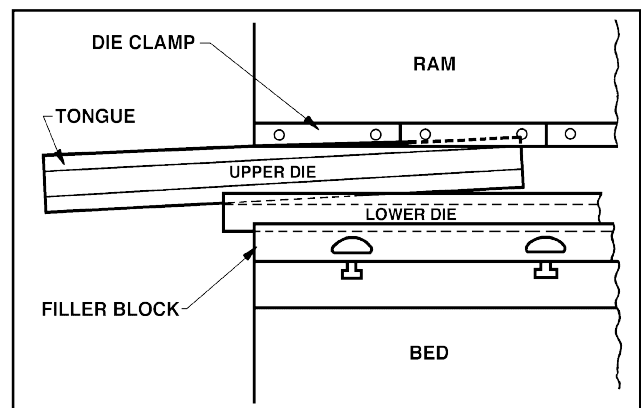

FIGURE 5-5 *Installing Tooling*
- Loosen the filler block set screws. Insert the lower die on the filler block leaving it extended several inches past the end of the filler block. See Figure 5-5. Visually center the filler block so the lower die is aligned with the slot in the ram nose.
- Insert and rest the upper die on the extended portion of the lower die. Make sure the tongue of the upper die is in the ram nose slot and the upper die is trapped by the lower die and the ram die slot. See Figure 5-5. Slide the upper die into lengthwise position with the lower die. Slide the set of dies into a centered position on the machine. Tighten the filler block set screws to clamp the lower die.